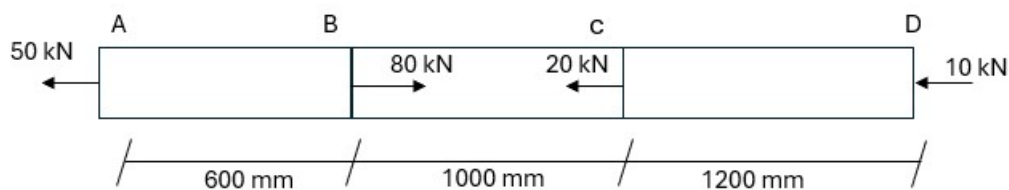

Figure :8
- (c) A brass bar having a uniform cross-sectional area of 1000 mm^2 is subjected to axial forces as shown in figure 8. Find the total change in length of bar. Take $E = 1.05 \times 10^5 \text{ N/mm}^2$. **07**